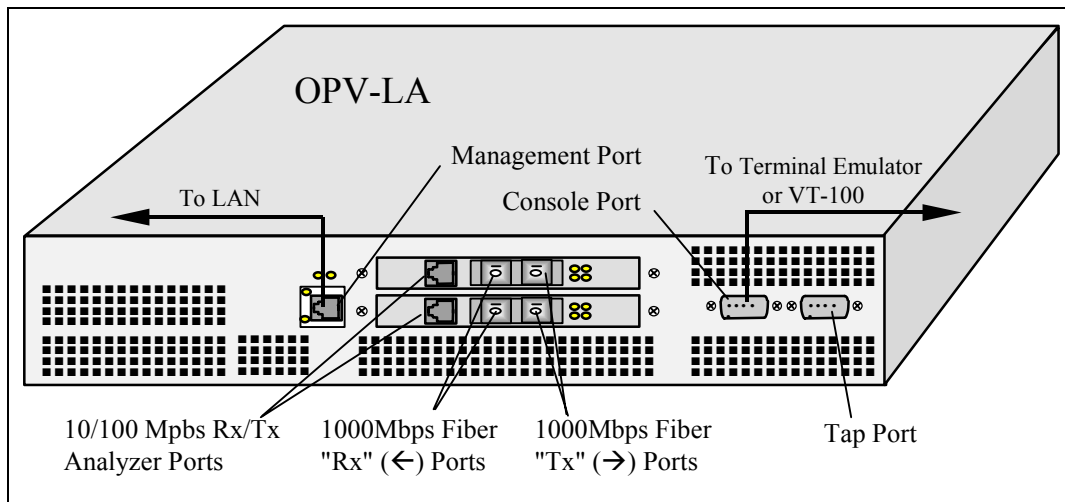

Figure 1. OPV-LA Ports
5. Use the 9-pin cable and necessary cable converters to connect the OPV-LA to either a VT-100 terminal or a desktop or laptop computer running VT-100 terminal emulation software. Plug one end of the cable into the Console port (9-pin port on the left, see Figures 1 and 2), and the other end into a COM port on your computer or the serial port on your computer.
Figure 1 shows the right side of an OPV-LA unit.